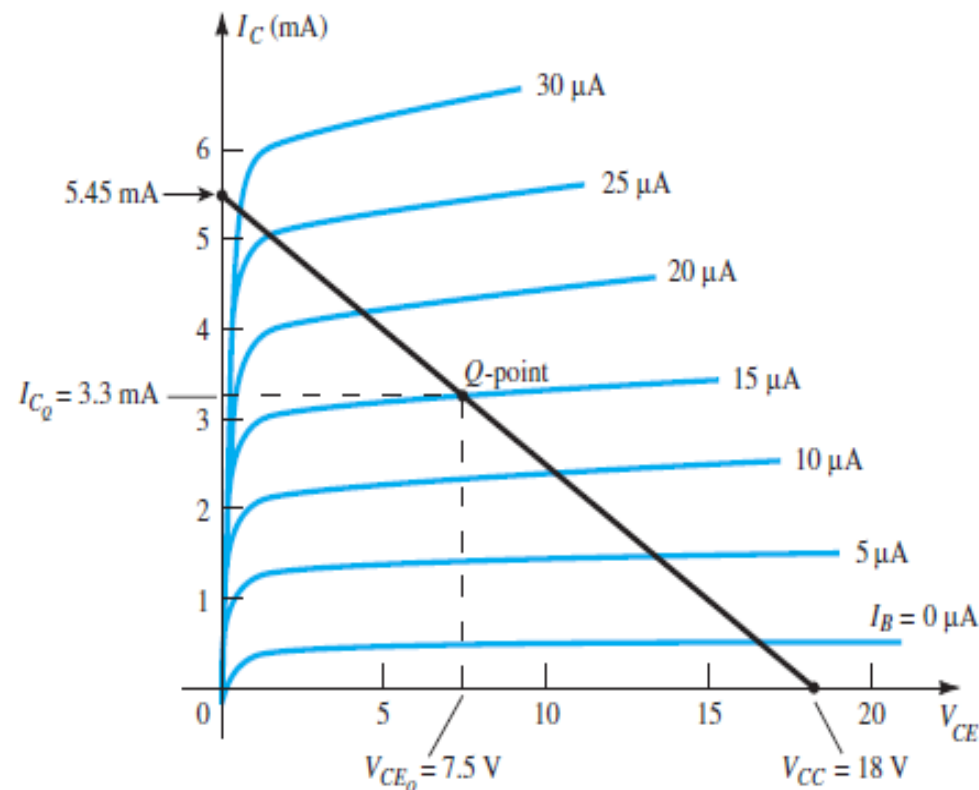

FIG. 4.27
The resulting load line appears in Fig. 4.27.
- b. From the characteristics of Fig. 4.27 we find